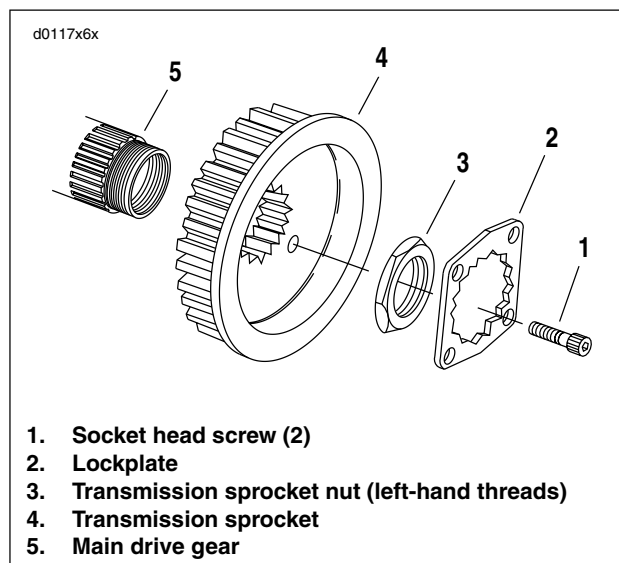

Figure 6-93. Transmission Sprocket
8. See Figure 6-93. Place transmission in first gear. Remove two socket head screws (1) and lockplate (2).
1. See Figure 6-93. Install transmission sprocket (4) with secondary drive belt onto main drive gear (5).
3. Apply a few drops of LOCTITE 262 (red) to the **left-hand threads** of transmission sprocket nut (3) and lightly coat the washer-faced side with clean H-D 20W50 engine oil. Wipe off any excess oil.
9. See Figure 6-93. Install lockplate over nut so that two of lockplate's four drilled holes (diagonally opposite) align with sprocket's two tapped holes.
10. See Figure 6-93. Install two socket head screws through aligned holes of lockplate and into tapped holes of sprocket. Tighten to 90-110 in-lbs (10.2-12.4 Nm).